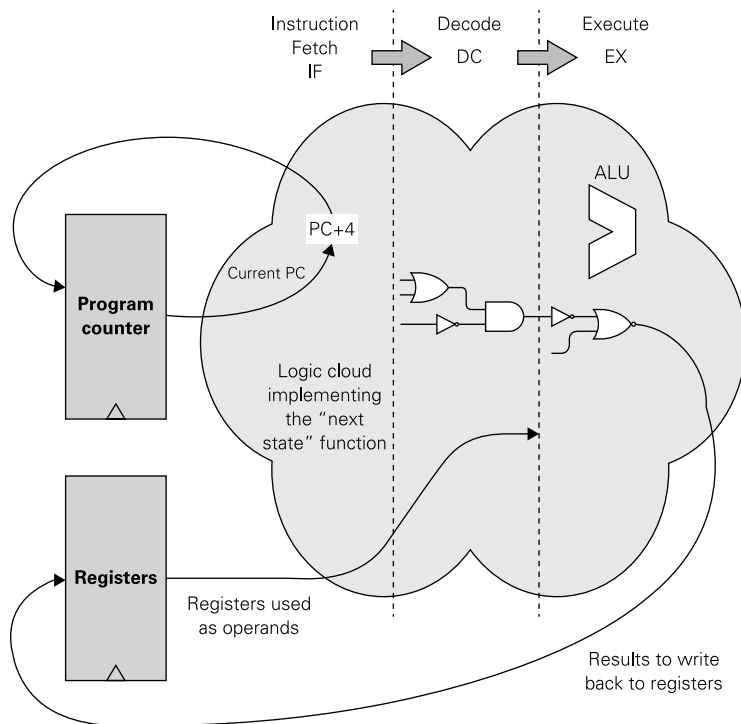

FIGURE 4-10: A simple non-pipelined processor
To get a feel for what pipelining involves, take a look at a simple hypothetical non-pipelined processor, as shown in Figure 4-10. Flip-flops hold the current state of the processor (the current program counter (PC) and registers), and a cloud of logic calculates the next state ready to be fed back into the D inputs of the flip-flops in time for the next clock edge. You can roughly divide this cloud into three parts: Instruction Fetch (IF), Decode (DC), and Execute (EX). In the IF part is some logic that works out the next program counter (PC) value—there are no branches in the hypothetical processor example. The registers aren't needed until the EX part. At the start of each cycle the outputs of some of the flip-flops change, and during the cycle a wave of activity propagates from left to right through the logic cloud. The maximum clock speed is determined by the time taken to traverse the longest path through the cloud's logic. During the latter parts of the cycle, the left-hand bits of the cloud have reached a steady state, and are just supplying the results to the still-changing logic in the right-hand part. Wouldn't it be nice to take a snapshot of that steady state and let the left-hand bits get on with something else, such as fetching the next instruction? A pipelined processor inserts pipeline latches (again, flip-flops) into the cloud to do precisely that.
The speed of the CPU is again determined by the time required to traverse the longest path in any part of the cloud, but because we chopped up the cloud into three parts, what was once the longest path is bound to be quicker than in the non-pipelined processor shown in Figure 4-10.